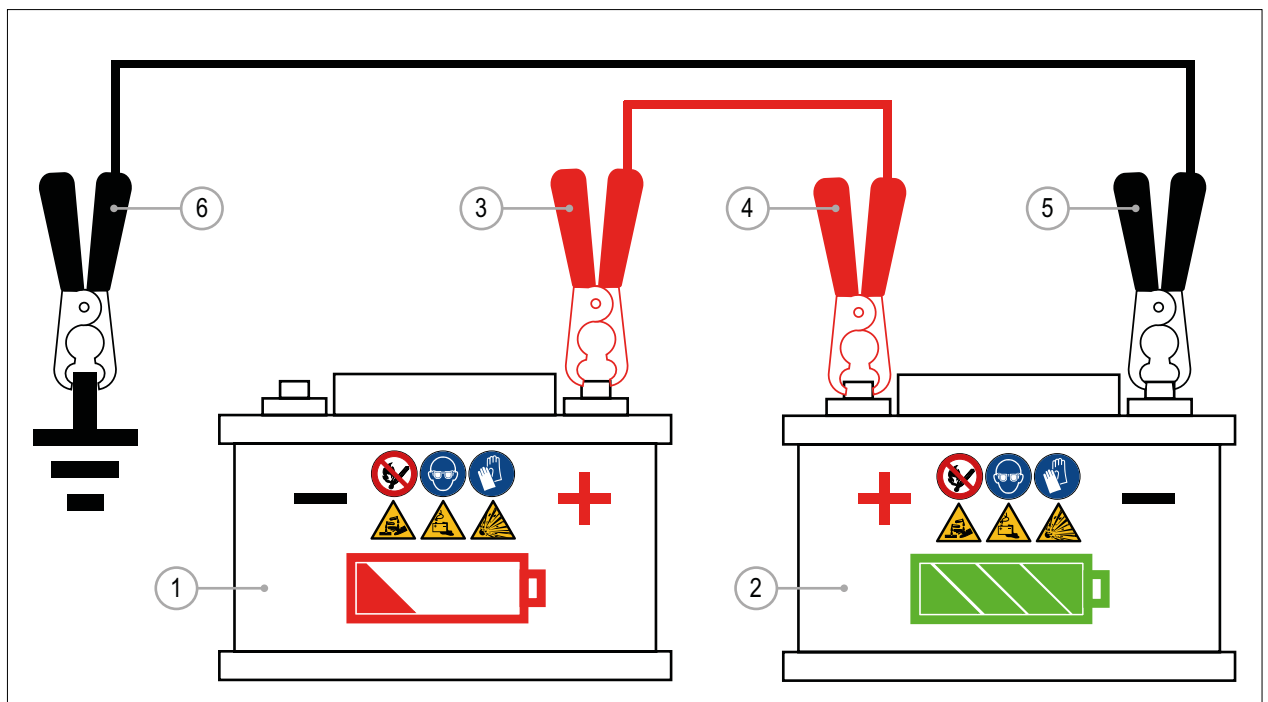

FIG. 32
If the machine battery (FIG. 32 - Rif. 1) is disabled it is possible to start the engine using an booster battery and the booster cables (FIG. 32 - Rif. 2) or a booster.
- 3) Connect positive (+) booster cable to disabled machine battery positive(+) post (FIG. 32 - Rif. 3). You can also connect it to the positive post of the starter motor (FIG. 37 - Rif. 4).
- 4) Connect other end of positive(+) booster cable to booster battery positive(+) post (FIG. 32 - Rif. 4).
- 5) Connect negative (-) booster cable to booster battery negative (-) post (FIG. 32 - Rif. 5).
- 6) Connect other end of negative (-) booster cable to a metal part of machine frame or engine, away from battery (FIG. 32 - Rif. 6).